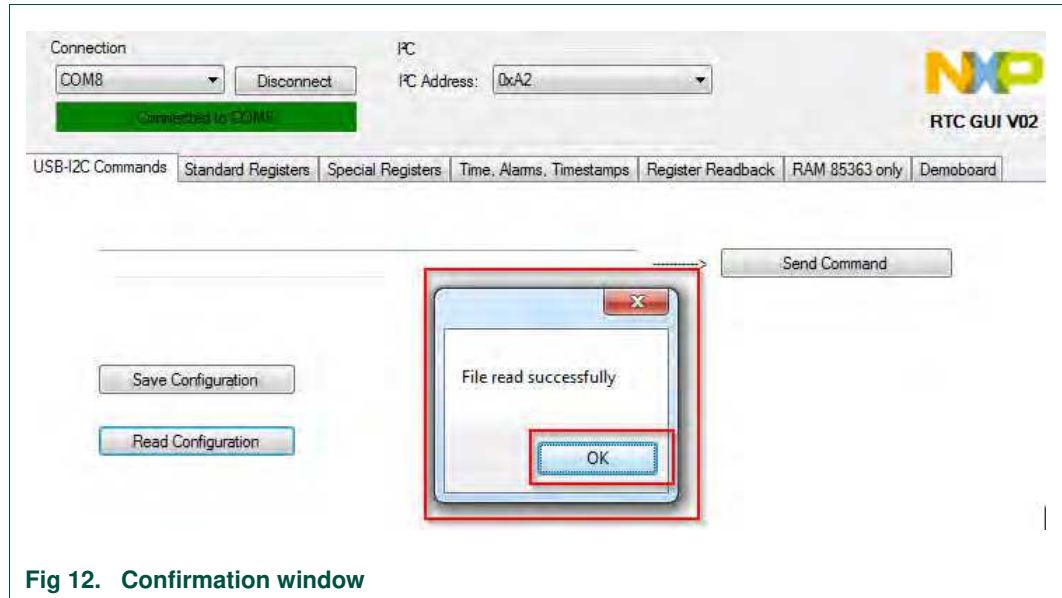

Fig 12. Confirmation window
2. If the GUI manages to read in the files successfully, it will produce a pop-up window and then just press OK (see Fig 12).